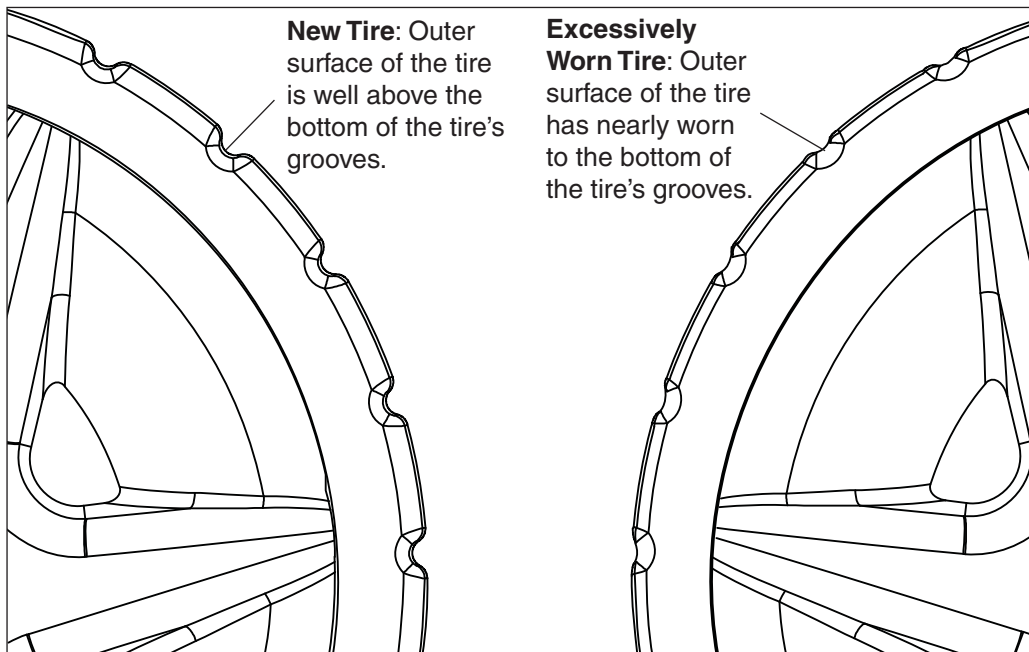

Figure 18: Tire Wear Comparison
- The tires are not excessively worn. See **Figure 18** on the next page.
After prolonged use it may become necessary to replace the Warrior™ Suction Side Pool Cleaner's rubber tires. When the tire surface has worn into the tire's grooves the tire is in need of replacement. See **Figure 18**.